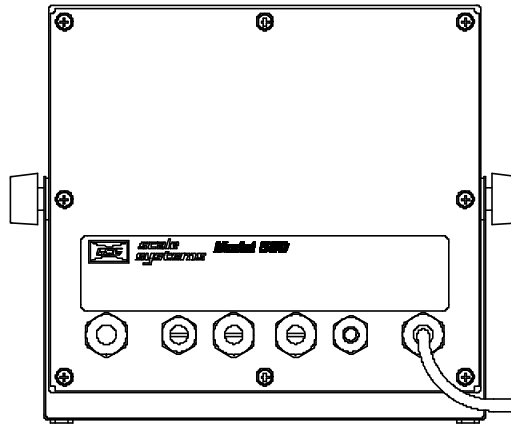

Figure 2-5: 560 and 562 Rear Panel
3. Using a #2 cross-tip (Phillips) screwdriver or an 8mm socket, remove the eight 8-mm hex head screws from the rear panel (see Figure 2-5).